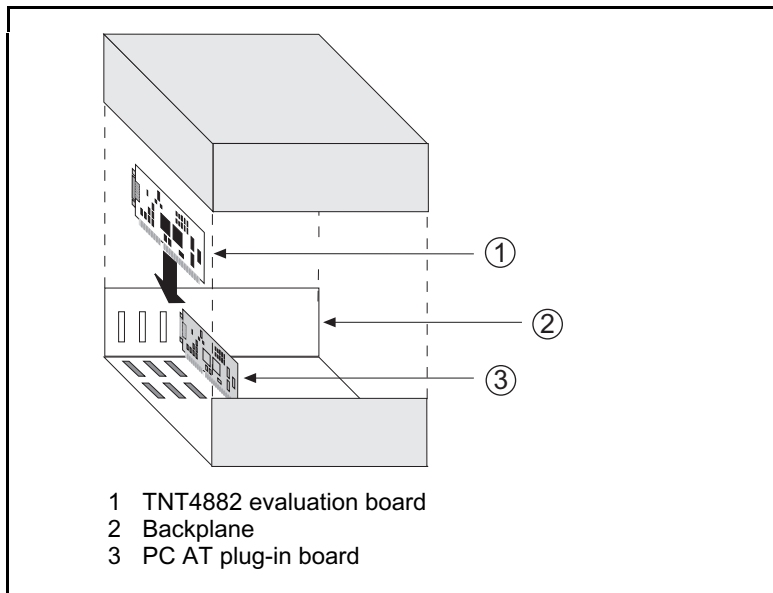

Figure 2-1. Installing the TNT4882 Evaluation Board
4. Insert the TNT4882 evaluation board into any unused slot with the GPIB connector sticking out of the opening on the back panel, as shown in Figure 2-1. It may be a tight fit, but do not force the board into place.